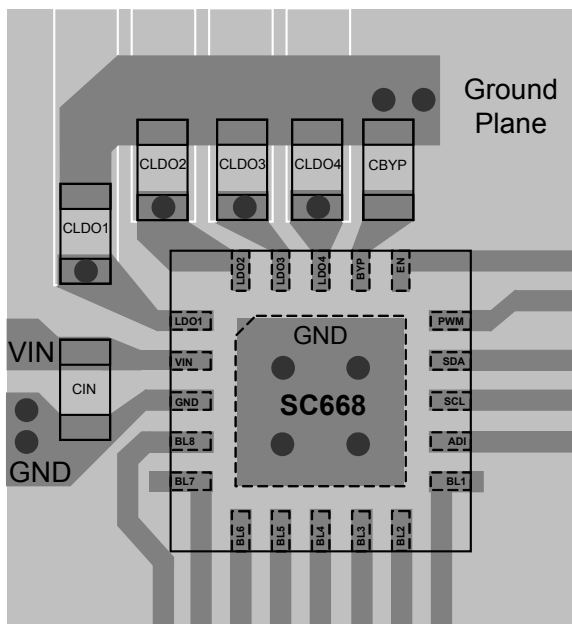

Figure 16 — Recommended PCB Layout
The layout diagram in Figure 16 illustrates a two-layer PCB layout for the SC668 and supporting components. Following fundamental layout rules is critical for achieving the performance specified in the Electrical Characteristics table. The following guidelines are recommended when developing a PCB layout:
- The following capacitors — C_{LDO1} , C_{LDO2} , C_{LDO3} , C_{LDO4} , and C_{BYP} should be grounded together. Connect these capacitors to the ground plane at one point near the SC668 as shown in Figure 16.